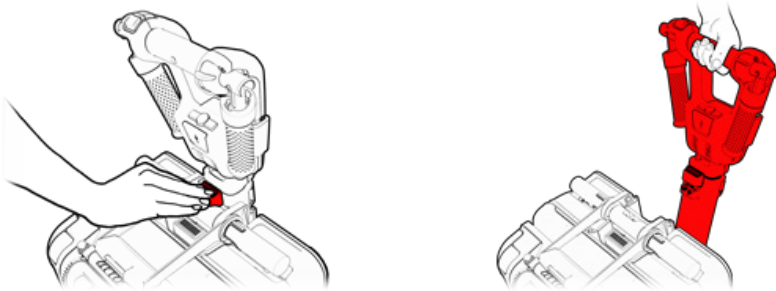

Figure 46
2. Press the rod button (see Figure 46, step 1) and tilt it away from the main ATTO body (see Figure 46, step 2).